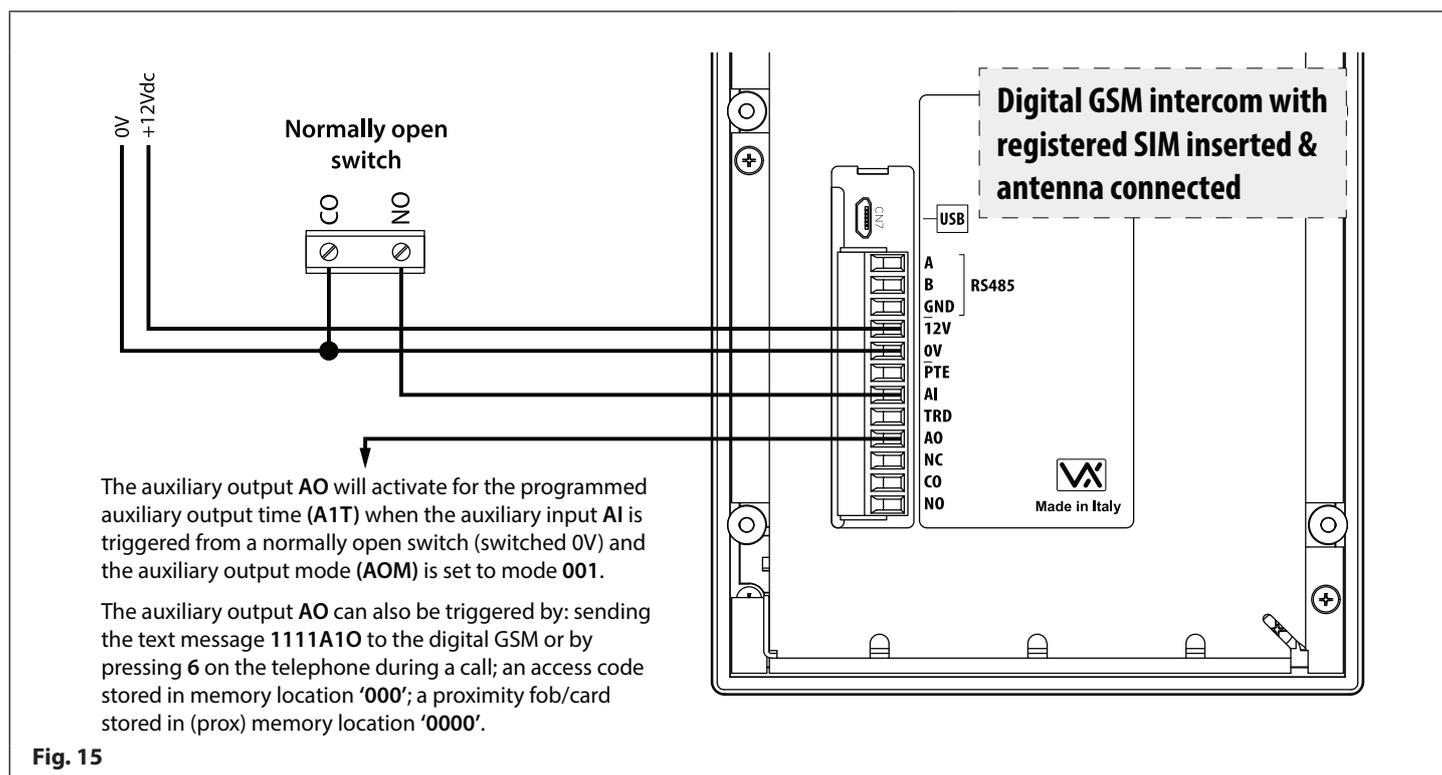

Fig. 15
**Fig.15** below shows the connection for auxiliary output AO when the AOM mode is set to 001. The auxiliary output AO can be activated remotely by the user sending the text message 1111 A10 to the digital GSM intercom or by pressing 6 on the telephone during a call and will stay activated for the programmed auxiliary output time A1T. The auxiliary output can also be triggered by a normally open switch (switched 0V) connected into the auxiliary input AI.